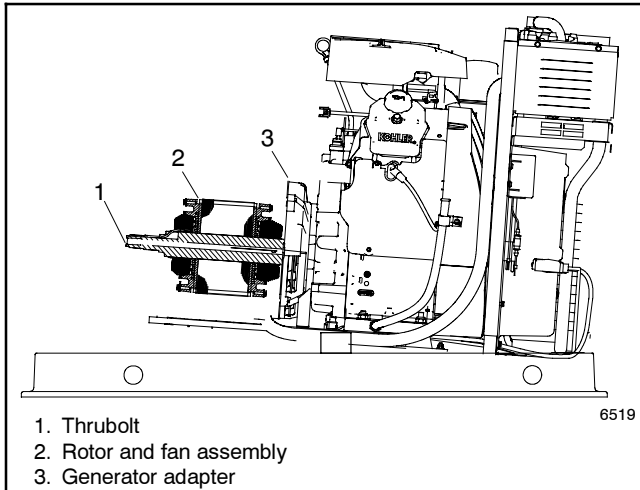
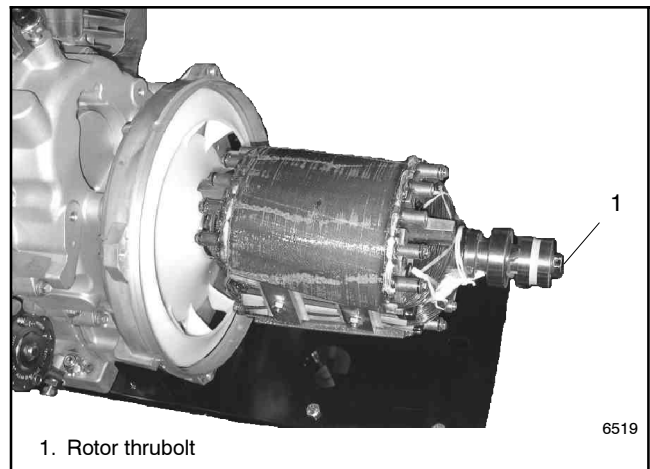

Figure 6-16 Rotor and Thru-bolt
Figure 6-18 Rotor with Thru-bolt
- b. Loosen but do not remove the rotor thru-bolt. Use a strap wrench on the rotor to keep the rotor from turning during loosening, if necessary. See Figure 6-16.
- c. Loosen the rotor assembly by striking the side of the rotor with a soft-faced hammer to loosen it from the tapered crankshaft fitting. See Figure 6-16. Rotate the rotor and strike it on alternate sides until it can be rocked slightly back and forth.
2. Install the rotor. See Figure 6-16 and Figure 6-18.